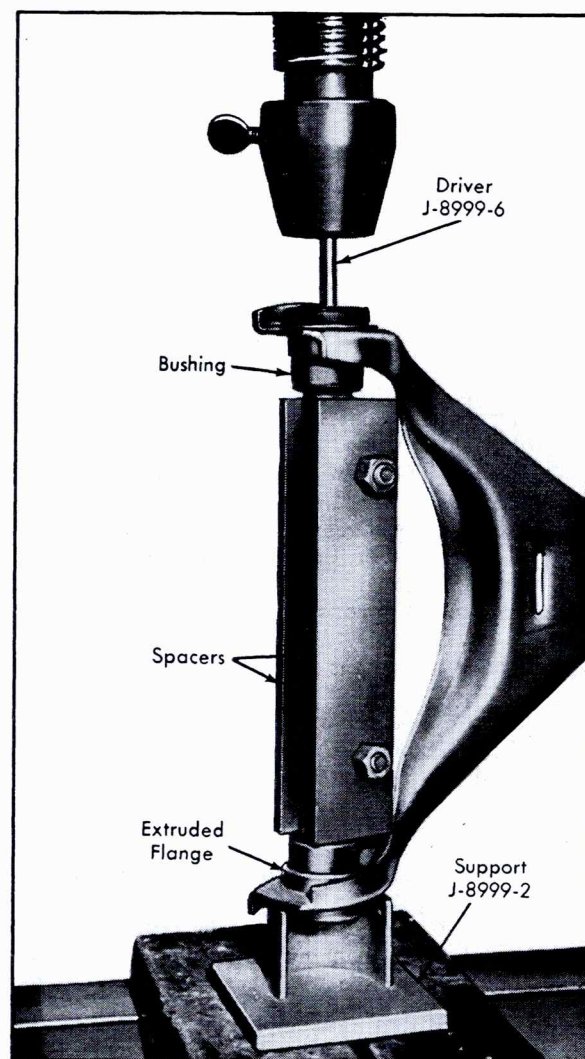

Fig. 3-19 Removing Bushing From Upper Arm
2. Install spacers on shaft between arm ends. Secure spacers to shaft with bolts and nuts, Fig. 3-19.
6. Drive shaft downward until spacer plates touch extruded flanges of control arm, Fig. 3-19.